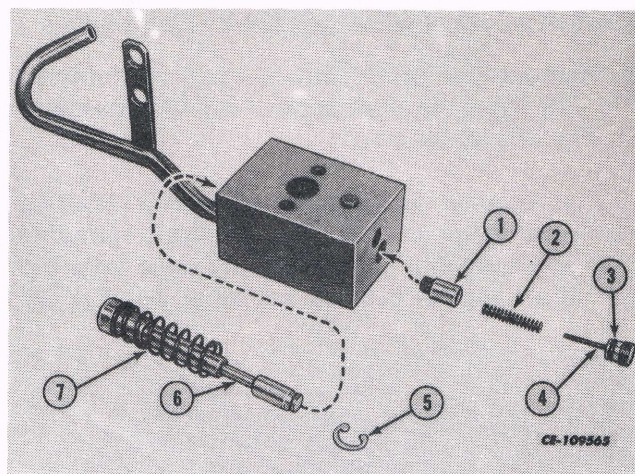

Fig. 33
a. Remove the variable orifice spool snap ring and spool with the spring. See Fig. 33.